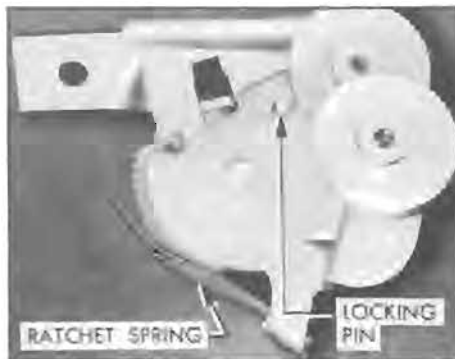

Figure 13-16—Cable Tensioner (Right)
5. Apply slight pressure to cable tensioner ratchet spring, then rotate pulley support plate until a $\frac{1}{8}$ " pin can be inserted through the holes in plate and bracket to remove spring pressure from the cables. See figure 13-16. Disconnect cables from drive shaft lever.